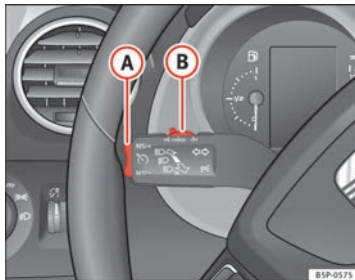

Fig. 149 Turn signal and main beam headlight lever: switch and rocker switch for the cruise control
- Press the lower part **SET/-** of the rocker switch ⇒ Fig. 149 **(A)** once briefly when you have reached the speed you wish to set.